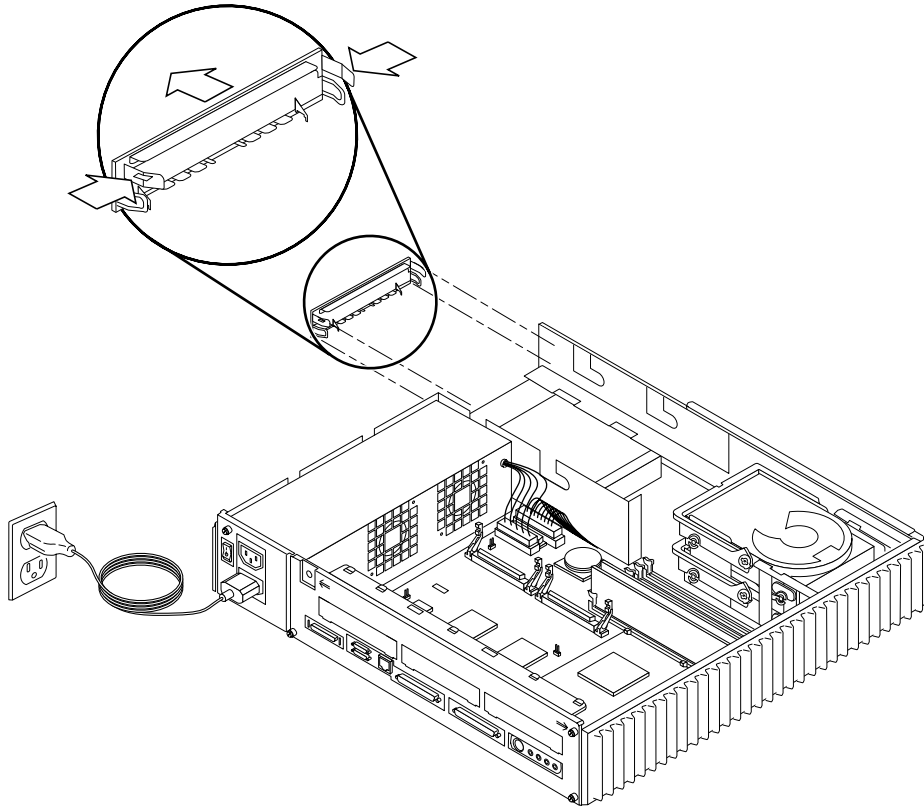

FIGURE 9-8 Removing the CD-ROM Filler Panel
- 3. Remove the CD-ROM drive (if installed). If the CD-ROM drive is not installed, remove the CD-ROM filler panel as shown in FIGURE 9-8.**
- 5. If there is a CD-ROM drive, reinstall it. Otherwise, replace the CD-ROM drive filler panel shown in FIGURE 9-8.**